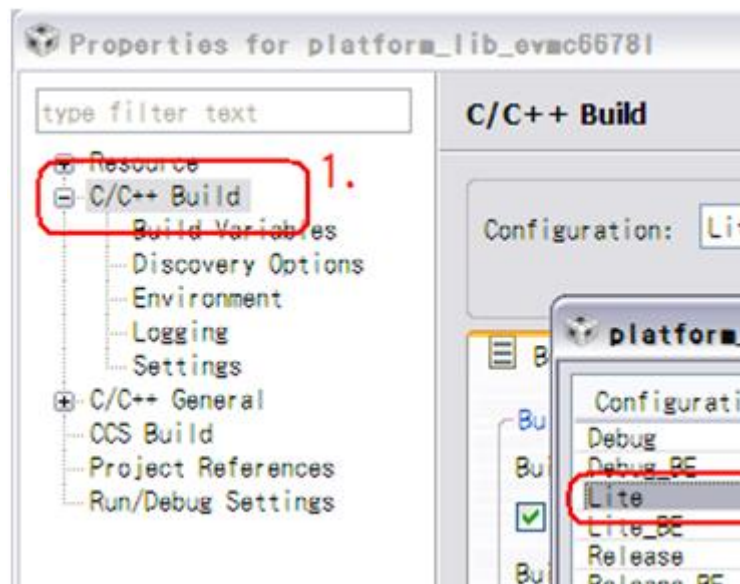
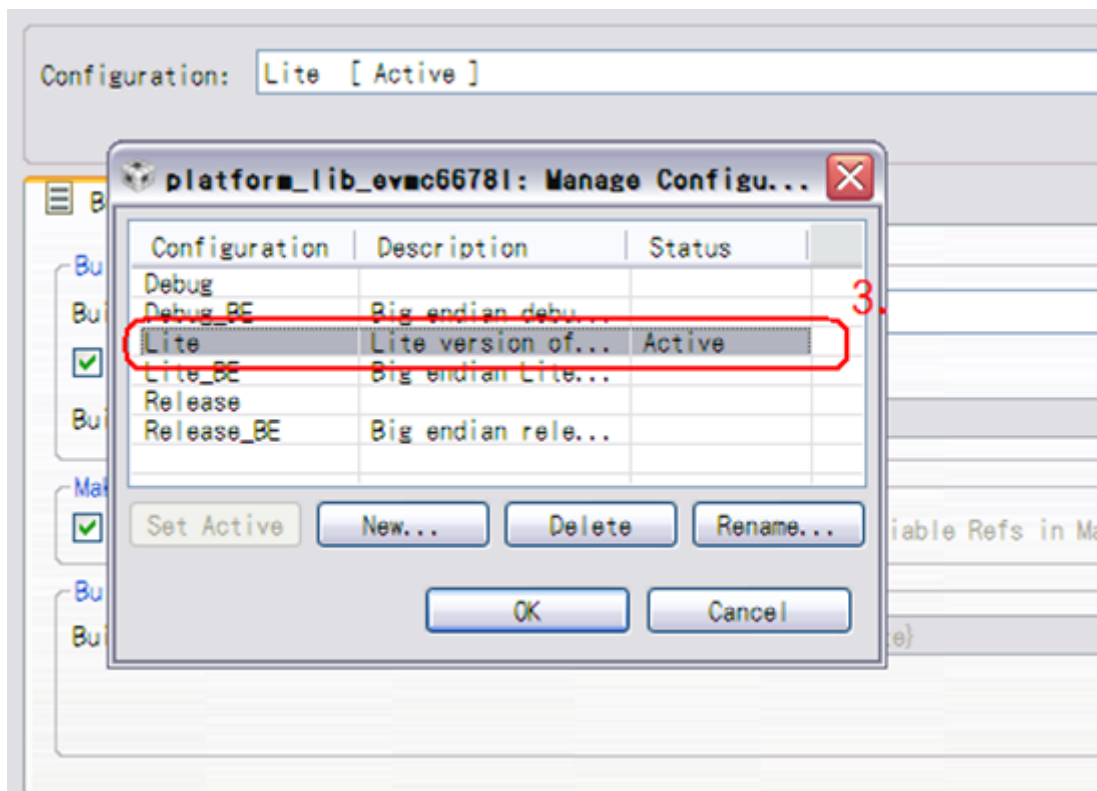

Figure 4-1 Select Lite as Active Configuration (Step 1)
Figure 4-3 Select Lite as Active Configuration (Step 3)
3. Refer to Figure 4-1 ~ Figure 4-3 and select "Lite" as active configuration (in CCSv5, Project->Properties)